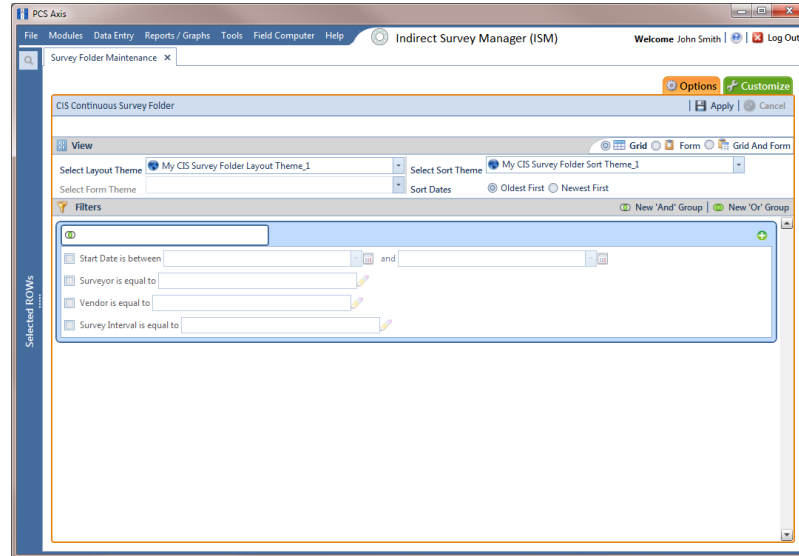

Figure 6-17. Options
- a Click the **Options** tab  to open the options page (Figure 6-17, page 211).